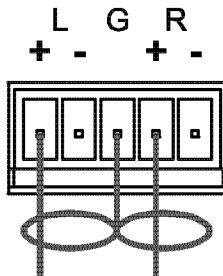

Figure 4: Connecting an Unbalanced Output
- An unbalanced audio output, see Figure 4